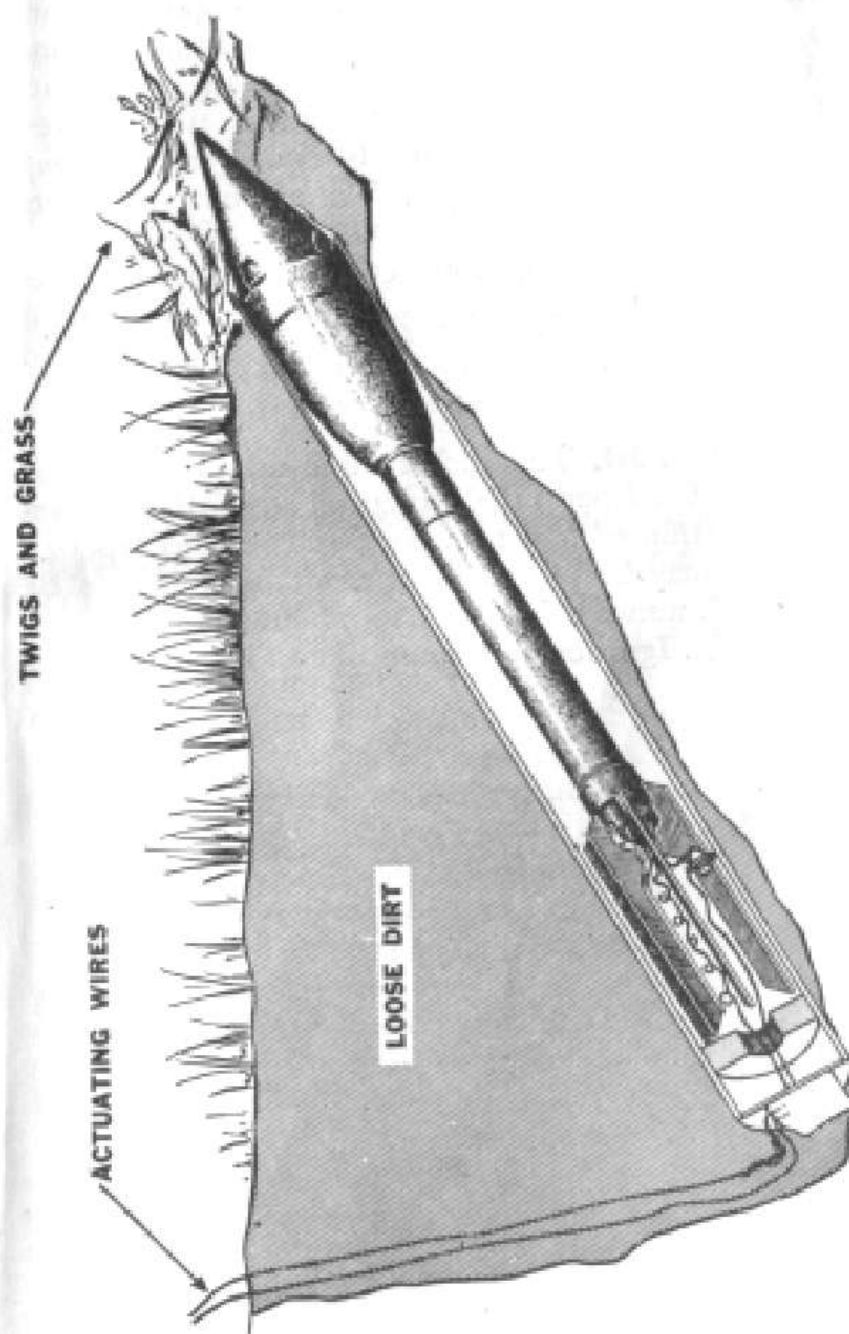

Figure 66. Rocket used as antitank mine.
94. SECONDARY EMPLOYMENT (fig. 66). In addition to its use as a projectile when fired from the launcher, the rocket may be prepared for firing electrically and used as an improvised antitank mine as follows: